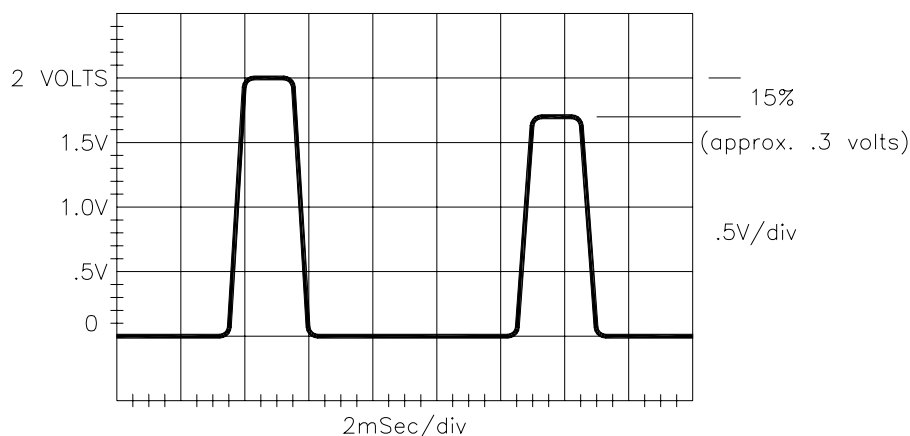

Figure 11. Detector Signal Adjustment
2. The detector adjustment potentiometer is accessible through the hole on the top of the detector cover. Use an electronic *tweezer* to adjust the preamp signal using for 2 volts peak-to-peak on the smaller signal (refer to Figure 11).
3. Verify that the two signals on the detector signal differ in amplitude by approximately 15% (refer to Figure 11). If they differ by less than 15%, the correlation wheel may require replacement.